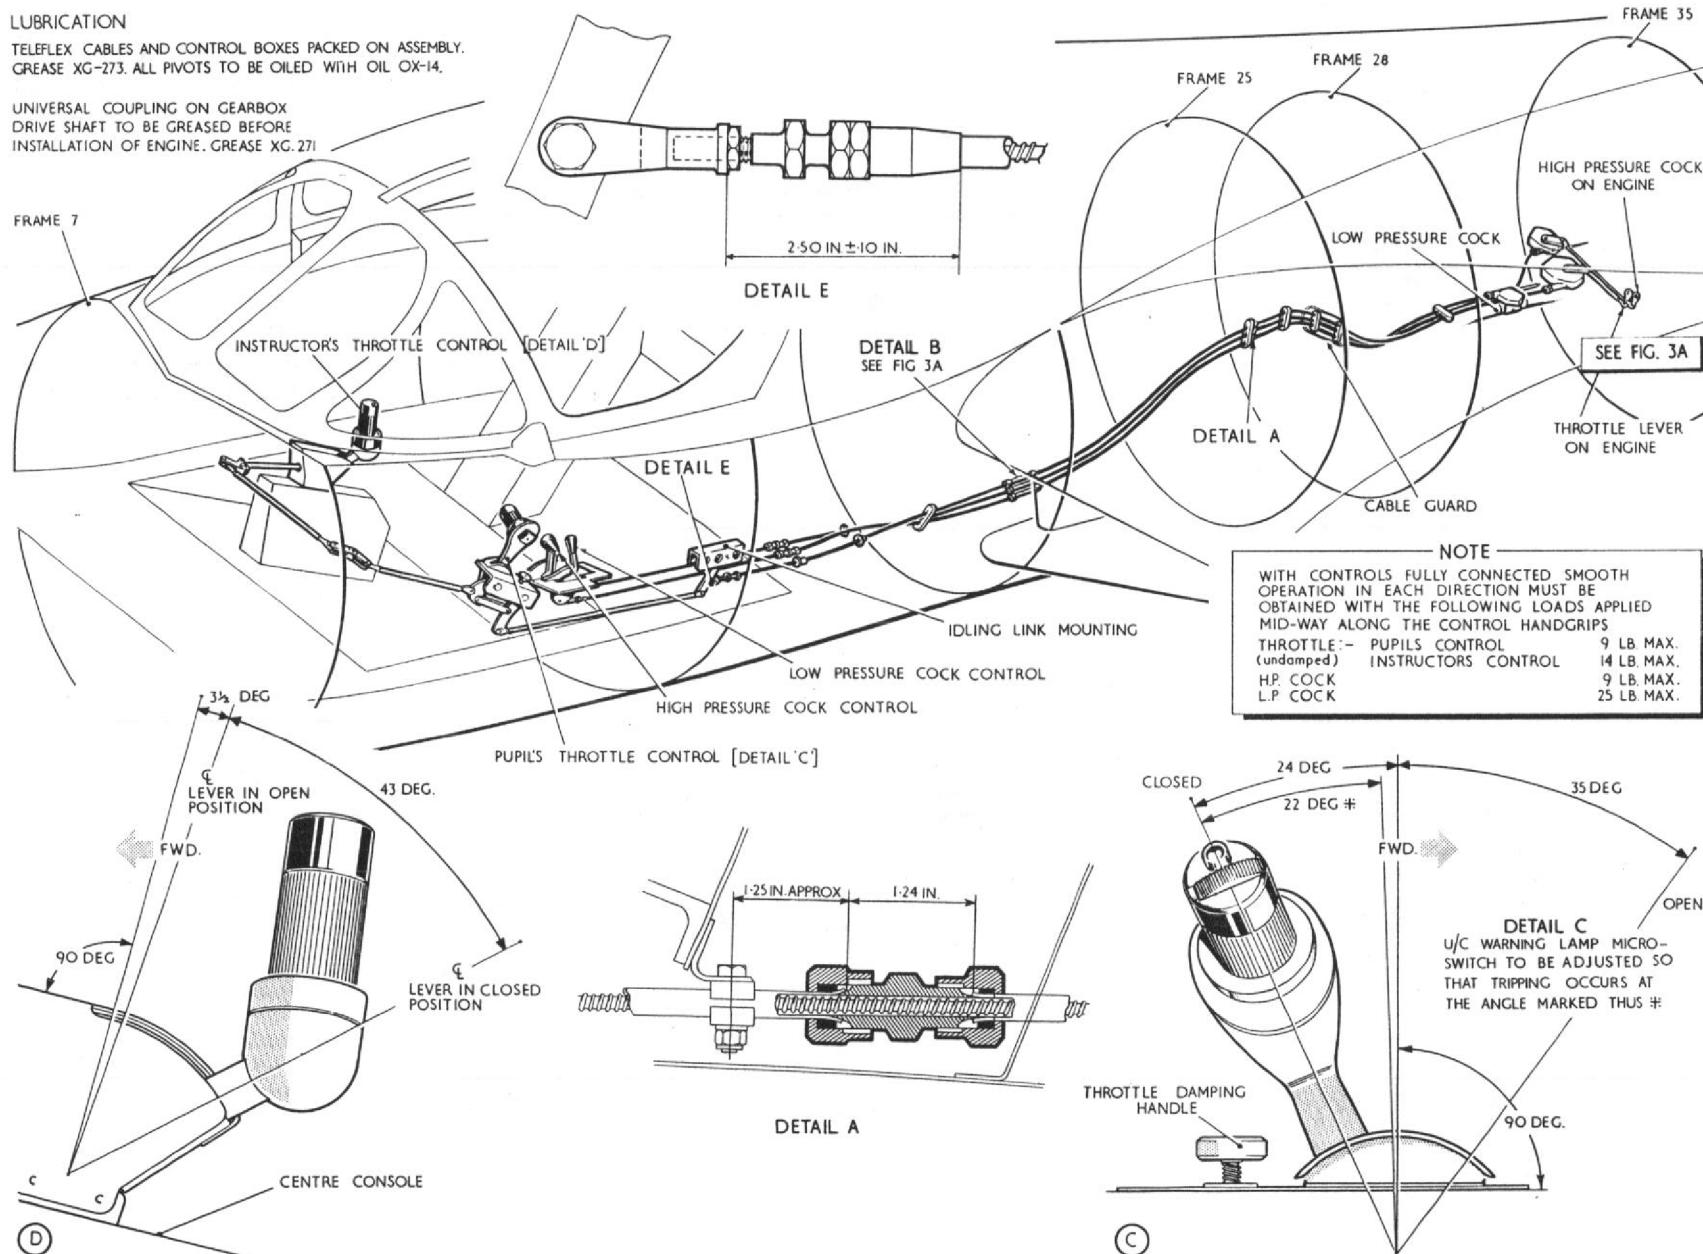

Fig. 3 Engine controls (I)
Engine controls (fig. 3 and 3A)
10. To facilitate assembly in the aircraft the connecting rod between the port throttle lever and the idling link (fig. 3) is manufactured in two sections. These are connected by an internal liner which is riveted to one section and during assembly the other section is secured to the liner by two bolts. To ensure adequate clearance between the bolts and the lightening holes in frame 11, through which the rod is routed, it is essential that the section of the rod in which the bolts are mounted is connected to the idling link and that the heads of the two bolts are outboard.
ing when being coupled to the aircraft linkage to ensure full control travel. It may also be found necessary to adjust the control rod between the actuating lever of the top temperature control actuator and the bell crank lever but it is important, after such adjustment, that a check be made to ensure that a clearance of 0.125 in. is present in the recess between the bell crank lever and the throttle lever arm when the throttle is fully closed. On completion of the adjustments ensure that all controls are in safety, correctly locked and that they are free from fouling throughout their full range of movement. Lubrication details and control lever settings are given in fig. 3 and 3A.
necessary (Sect. 2, Chap. 2). Lubrication of the engine controls and gearbox universal shaft couplings are detailed in fig. 3, additional information on the gearbox drive universal couplings being given in para. 13.